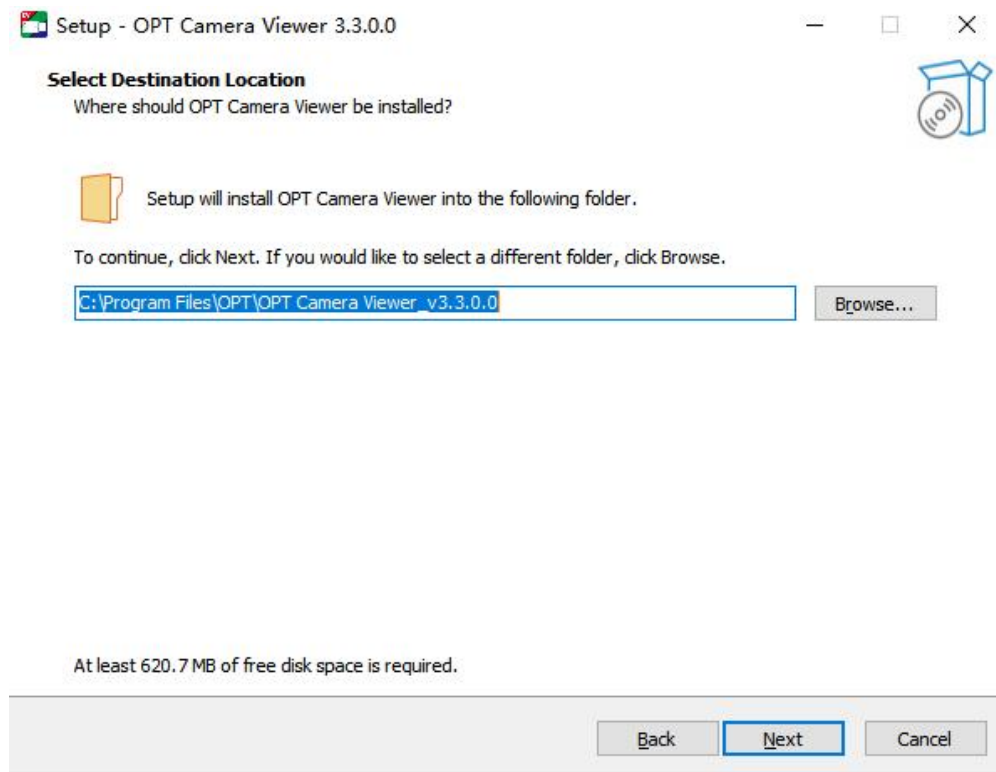

Figure 3-3 Installation folder window
4. Enter the installation folder window, as shown in Figure 3-3, select the software installation path (the default path is: C:\Program Files\OPT\OPT Camera Viewer_v3.0.0.0) and click the Next button to continue the installation process.
5. Enter the Ready to Install window as shown in Figure 3-3, and click Next to continue the installation process.